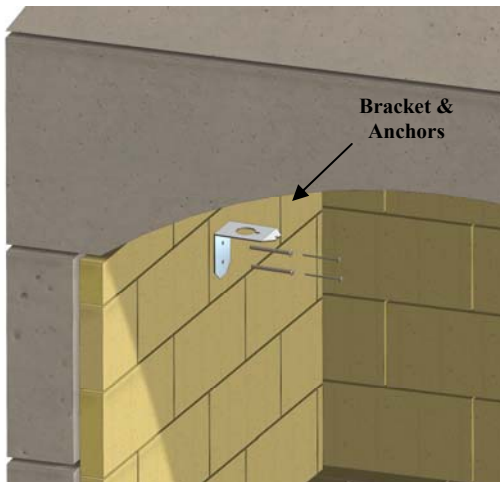

Figure 29. Install Bracket & Anchors
C. Install bracket towards the front of the firebox wall, about 20 inches above the firebox floor. The bracket will capture the damper operating cable. Use a 1/4" masonry bit to avoid cracks in the firebrick. See Figure 29.